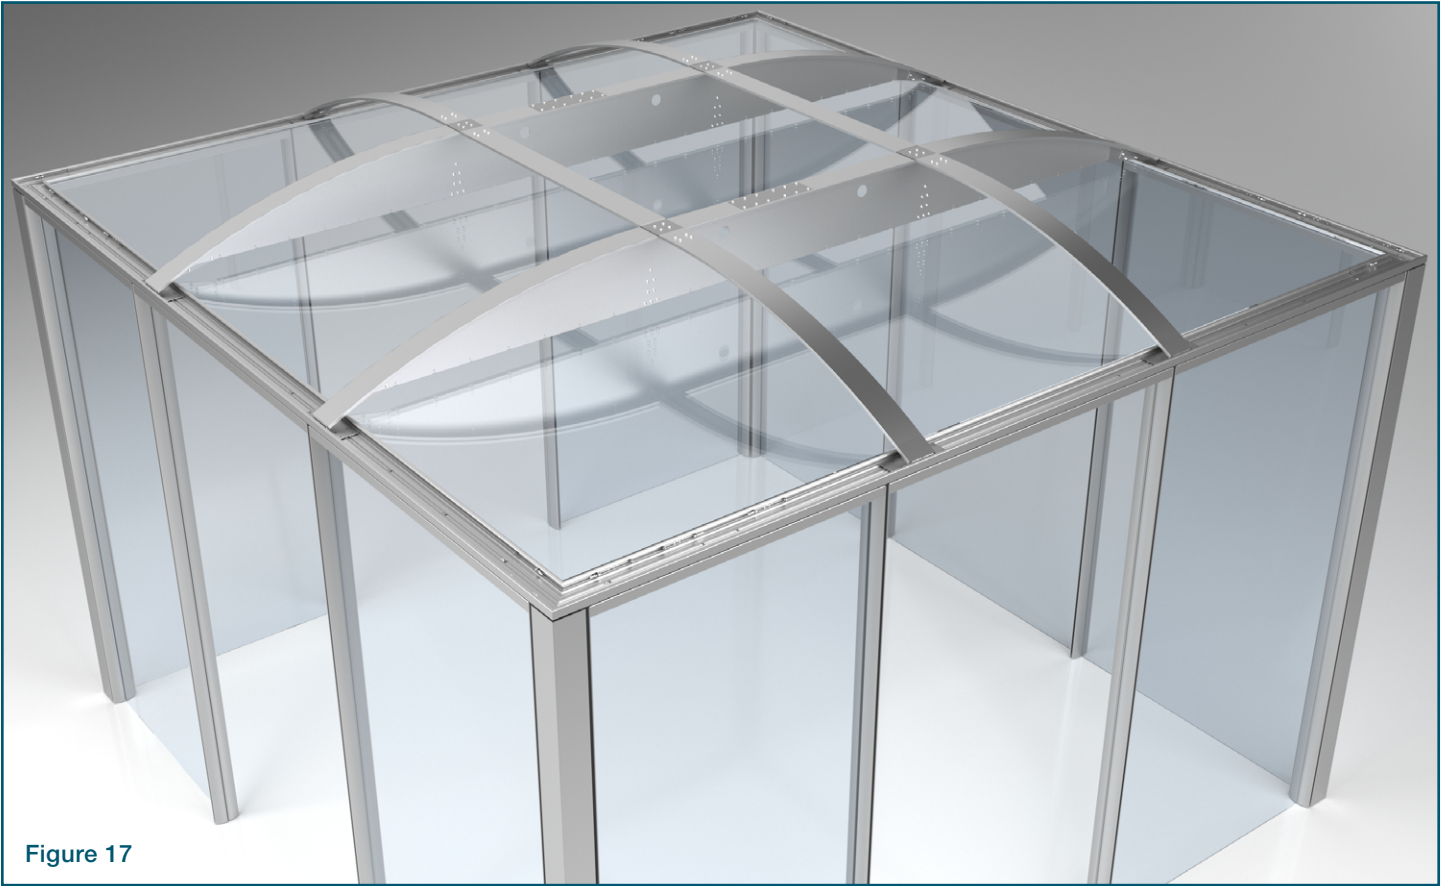

Figure 17
- 09** Slide the arch connection bracket into the ceiling ribs on either side of the final arch before attaching any of the PHTS. Press the arch connection bracket down and attach it to the top of the final arch. Attach the remaining PHTS to the lateral braces (see Figure 17).